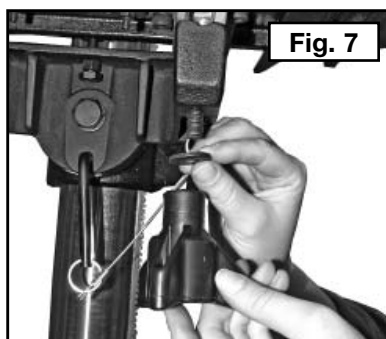

Fig. 7
5. Install the washers and forward tilt knobs as shown in Fig. 7. Tighten securely.